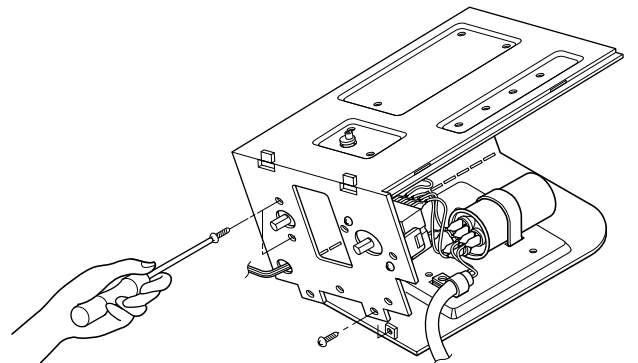

Figure 13
5. Remove the thermostat. (See Fig. 13)